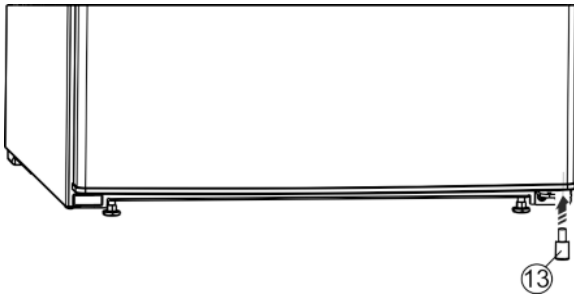

Fig. 9
- ▶ Insert the spacer *Fig. 9 (13)* back under the right-hand side of the door, as this is important for the stability of the appliance.